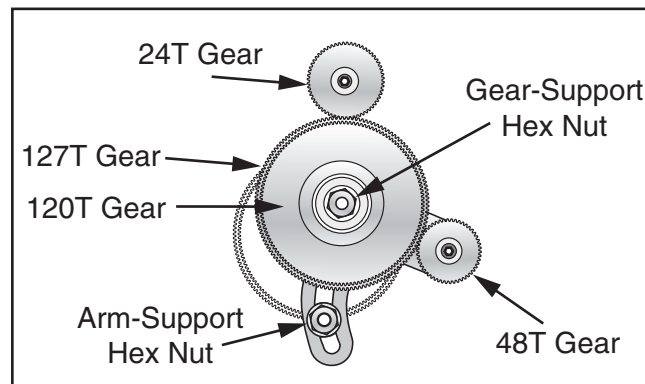

Figure 78. 60T & 54T gears installed.
- Slide **127T** gear against lower **48T** gear (see **Figure 78**) until they mesh with 0.002" to 0.004" backlash, then tighten gear support hex nut.